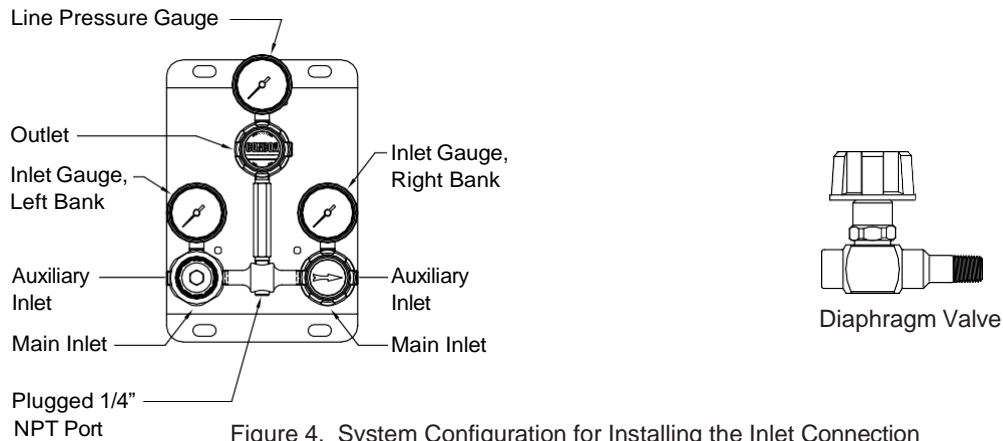

Figure 4. System Configuration for Installing the Inlet Connection
- Start the PTFE tape on the first thread, leaving a slight section of the chamfer exposed as shown in Figure 4. Make sure the tape does not overlap the end of the fitting.